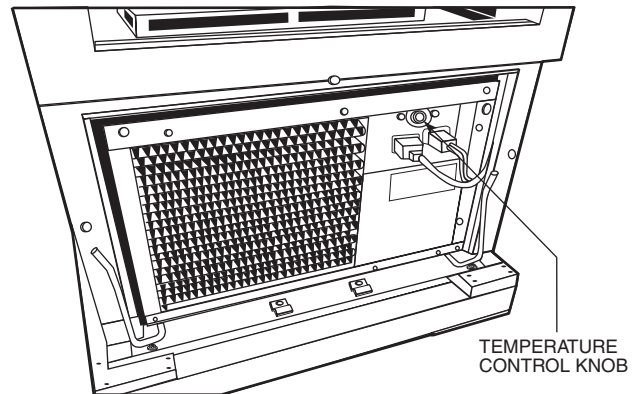

FIGURE 9 — TEMPERATURE CONTROL KNOB
■ TEMPERATURE CONTROL — The temperature control knob is located in the front power panel. See Figure 9. Unit is factory set at the number 4 position (normal), which will maintain the product at approximately 38 F. For colder temperature, turn the black adjustment knob to a higher setting. Adjust temperature control in small increments, one position at a time.